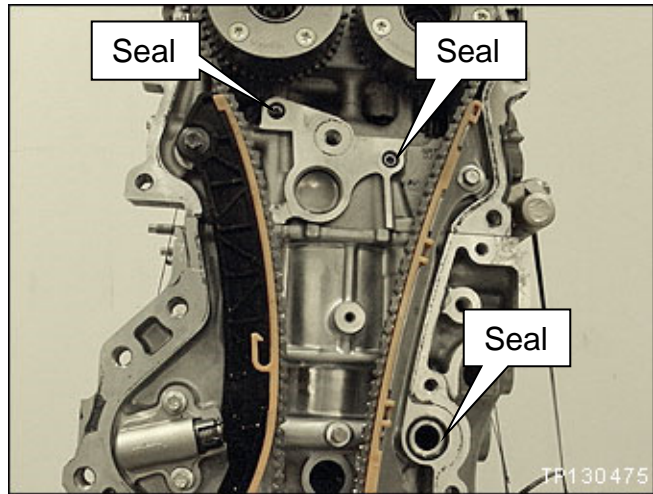

Figure 31
40. Remove the O-ring seals shown in Figure 31.